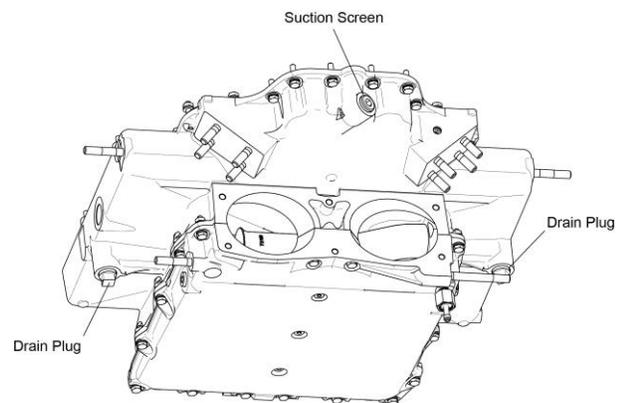

Figure 1
- C. Remove the two oil sump drain plugs (Figure 1).